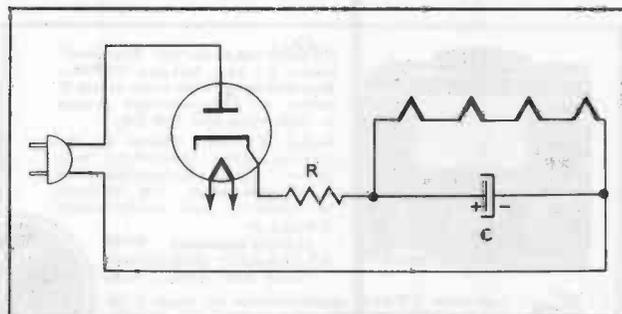

Figure 2. Filament circuit of an AC-DC Battery Portable.
Another precaution which ought to be observed is illustrated by the simplified schematic in Figure 2. The filaments in AC-DC battery portables are sometimes supplied through a dropping resistor (R) from the rectifier. A large capacitance (C) is placed across the tube string for filtering. If a tube filament burns out for one reason or another, the full rectified line voltage appears across the filter capacitor. This may cause the capacitor to break down if its voltage rating is not sufficiently high. However, should the capacitor withstand the abnormal voltage, it will proceed to take on a high charge due to its large capacity rating. Then when the defective tube is replaced, even though the receiver may be turned off at the time, the discharge path for the capacitor will be completed through the filament string and the high discharge current might burn out one or more additional tubes. A simple precaution in this case is to discharge the capacitor directly across its terminals before inserting the good tube and turning on the set.